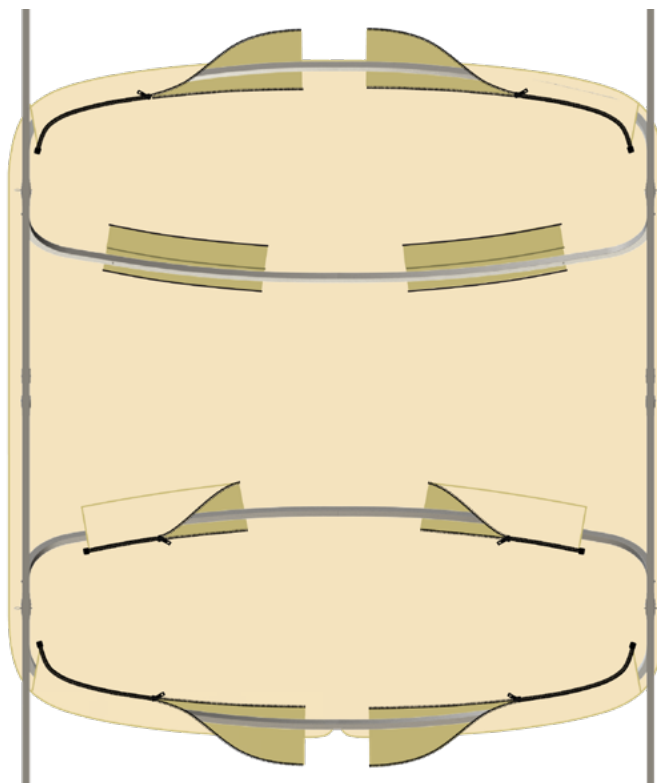

Fig.32
1. Unzip all bimini frame pockets (Fig.32).